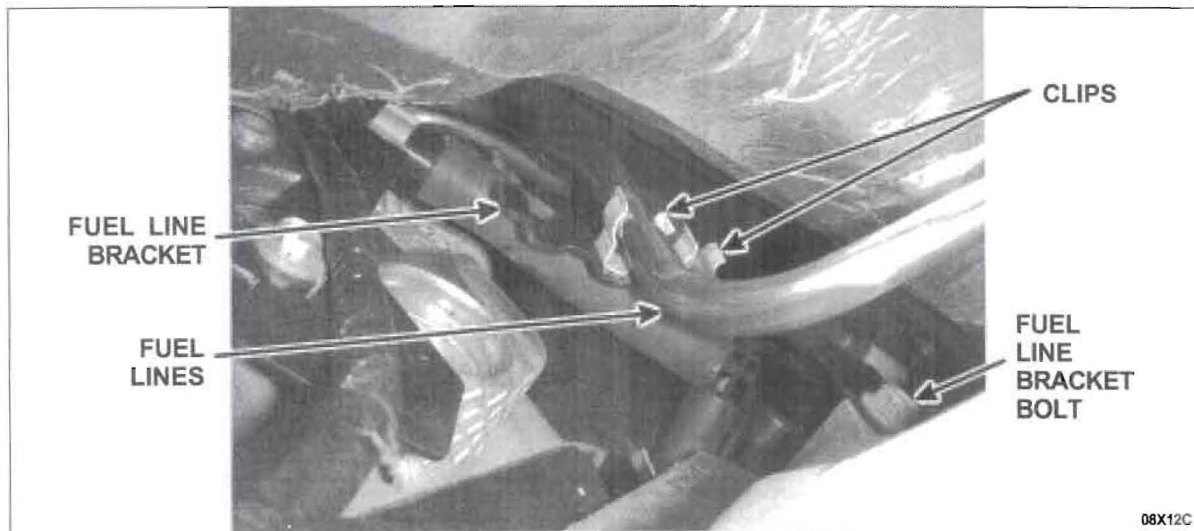

FIGURE 3
4. Unclip the fuel lines from the fuel line bracket and remove the fuel line bracket bolt from the transmission bell housing. See Figure 3.
5. Install the fuel line bracket and transmission bell housing bolt. Torque the bolt to 48 Nm. See Figure 3.
7. Align the fuel lines to the fuel line bracket retainers and engage the fuel lines into the bracket clips. See Figure 3.